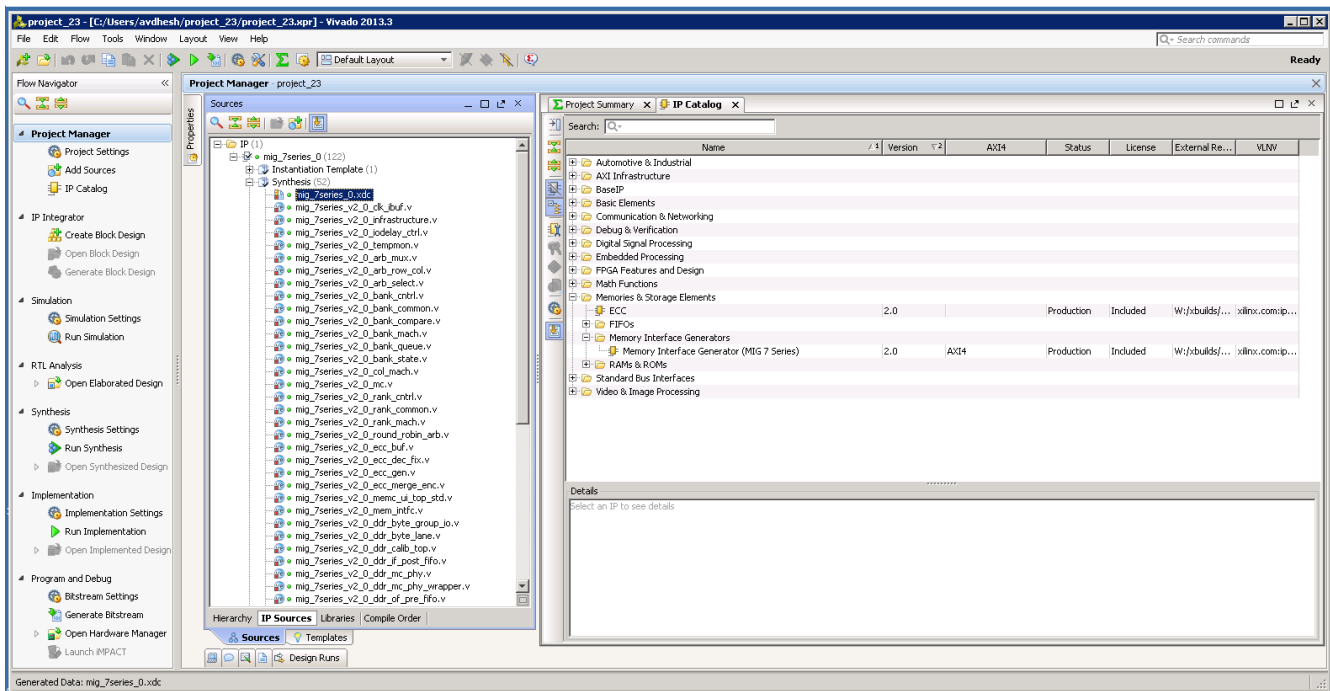

Figure 5-25: Vivado Project – RTL and Constraints Files
8. All user-design RTL files and constraints files (XDC files) can be viewed in the **Sources > Libraries** tab (Figure 5-25).